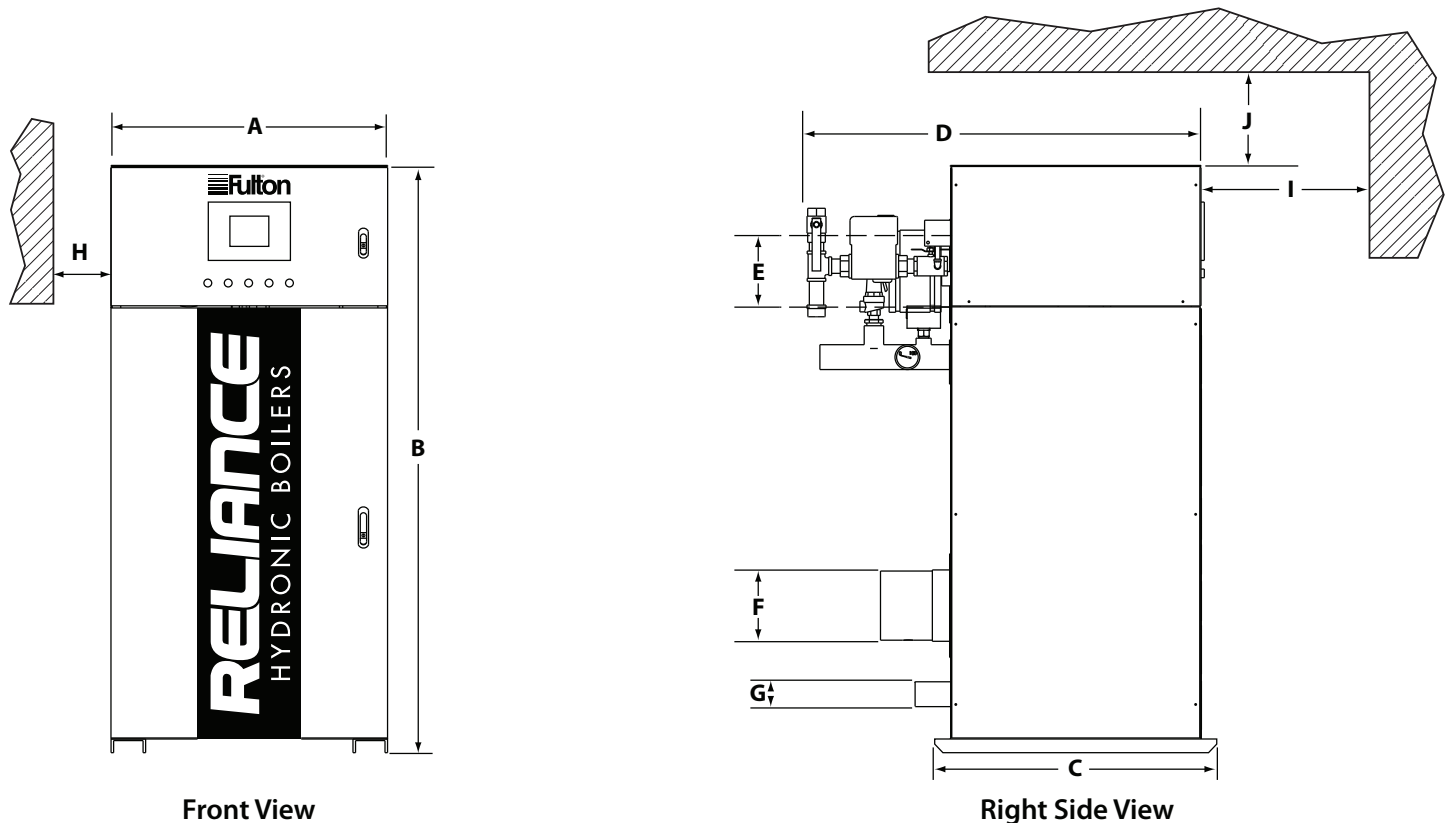

FIGURE 1 -RELIANCE HYDRONIC BOILER CLEARANCES (REFER TO TABLE 1B)
Prior to the performance of installation, operation, or maintenance procedures, personnel should become familiar with the equipment (Table 1 and Figure 1) and its components.
TABLE 1B - BOILER DIMENSIONS (REFER TO FIGURE 1)
2. Appropriate front, back, side and top clearances must be maintained (Figure 1). This will allow access around the equipment to facilitate maintenance and a safe work environment. An 1 inch (25.4 mm) side clearance is acceptable between boilers.